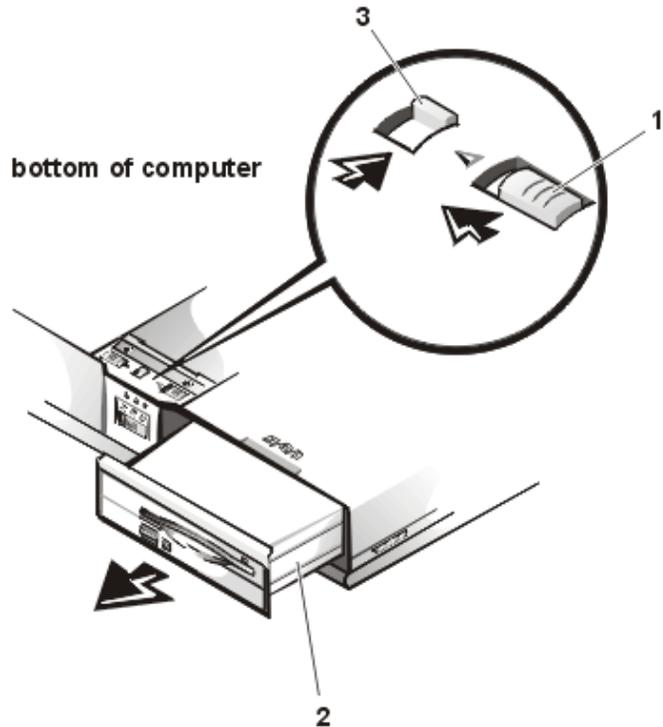

Figure 9. Media Bay Module Removal
11. If present, remove the module from the MegaBay™ (see Figure 9).